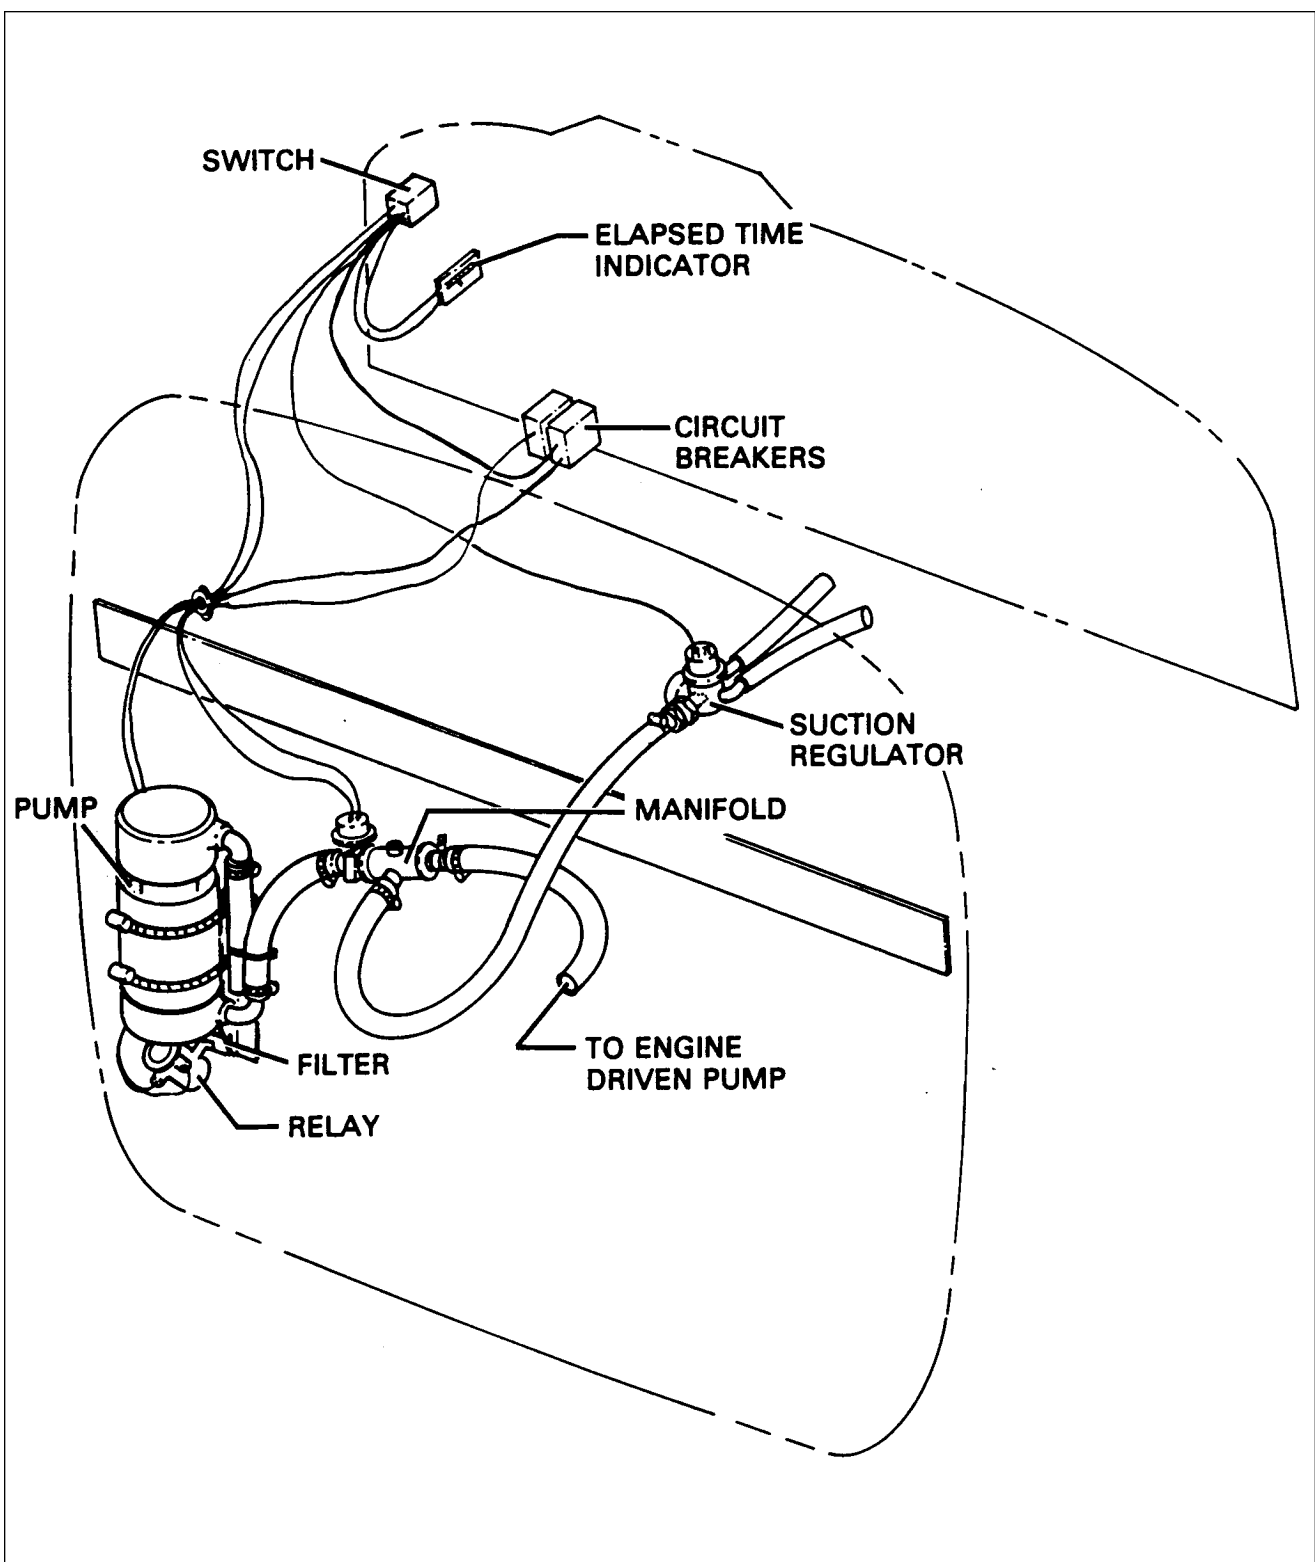

Figure 37-1. Auxiliary Vacuum Pump Installation
AUXILIARY VACUUM PUMP (SERIAL NUMBERS 8611001 AND UP) (figure 37-1)
9. Position pump/motor assembly as shown in figure 37-1.